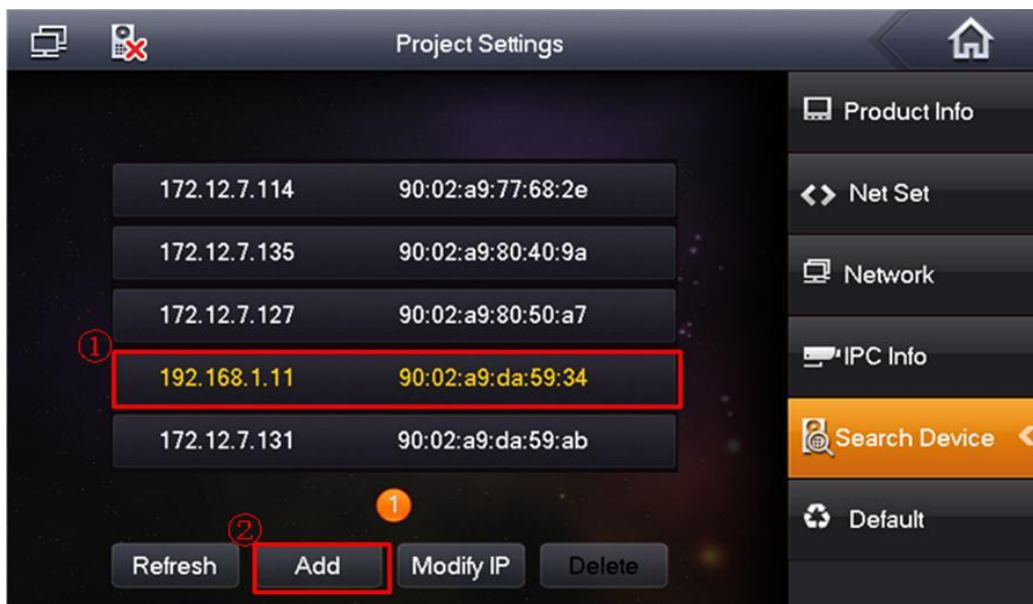

Figure 2-15
- c) Click Add to add VTO settings. See Figure 2-15.